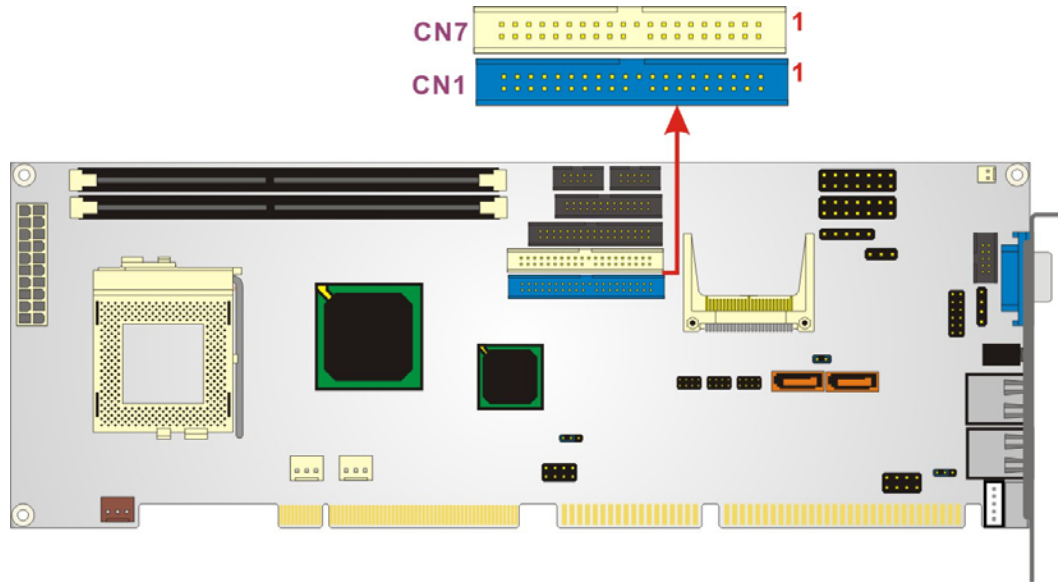

Figure 3-11: IDE Interface Connector Locations
- CN Location: See Figure 3-11